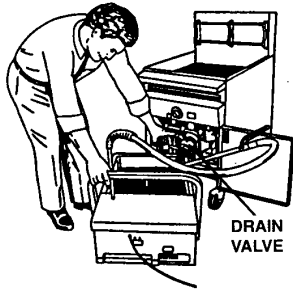

Figure 2.1: Drain fryer
1. Place filter under fryer drain. Screw drain extension tube in to drain valve if desired. Open main drain valve and let oil flow completely into filter (See Figure 2.1).